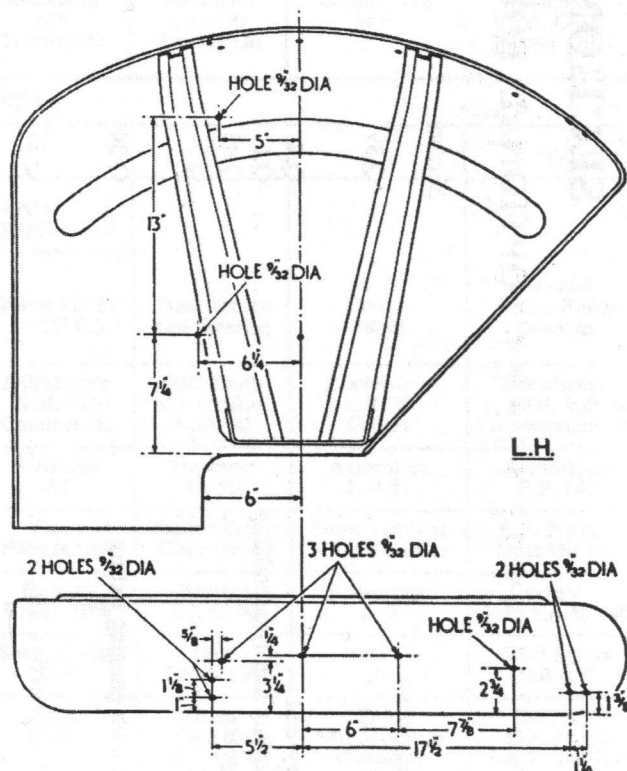

Fig. Q.2
- (1) Left-hand wing: Drill 10 $\frac{3}{32}$ in. diameter holes in the positions shown in Fig. Q.2